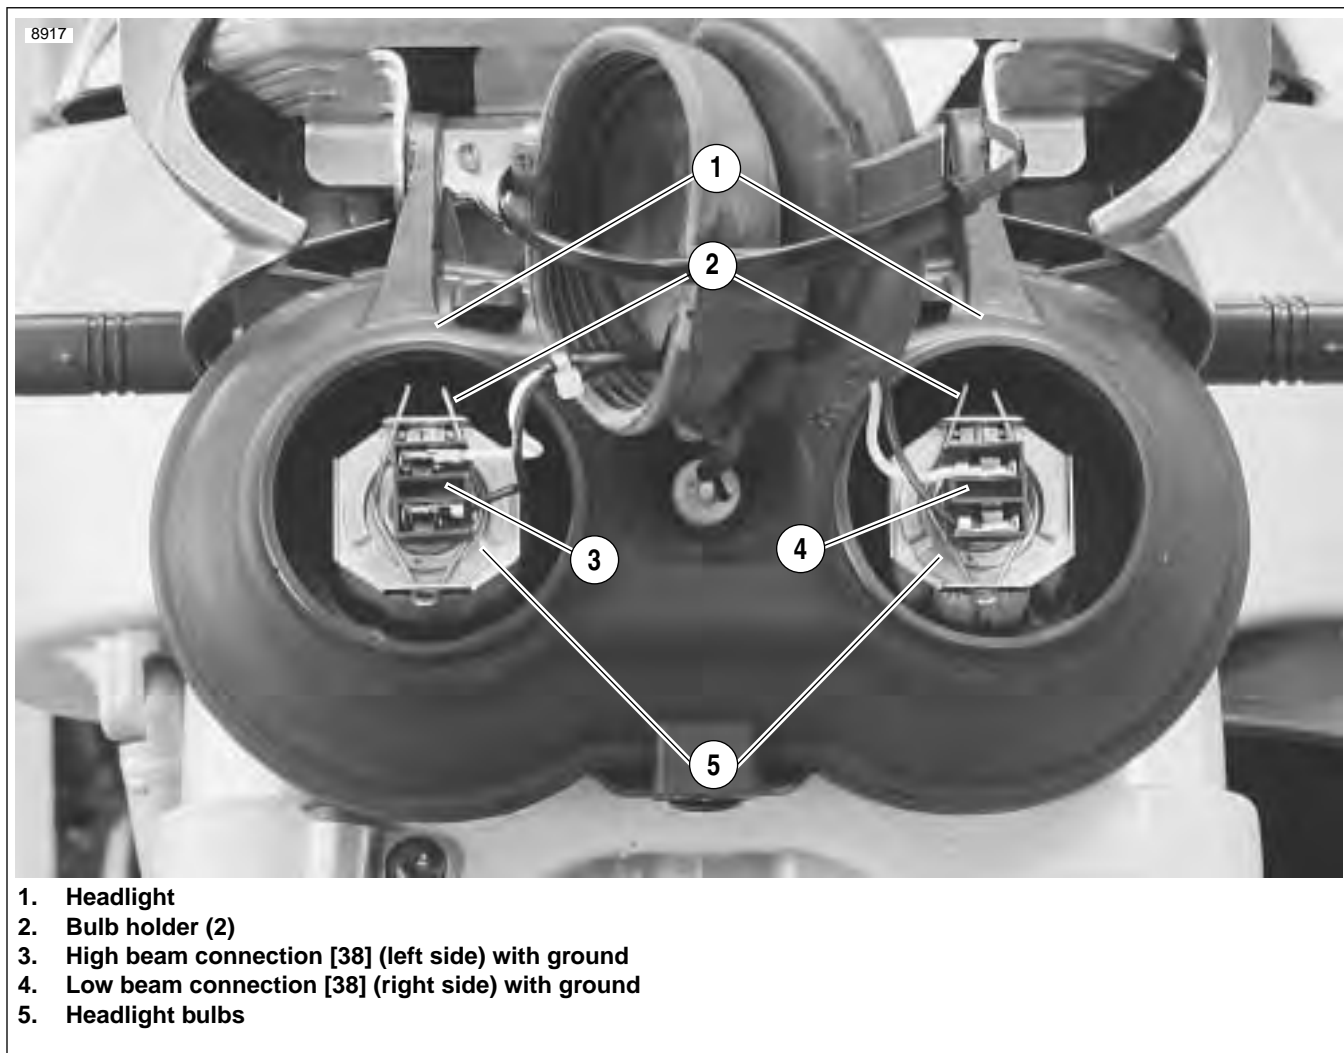

Figure 7-47. Headlight Assembly/Rear View
3. See Figure 7-47. Remove rubber boot from headlight housing.
4. Unplug headlight bulb connectors (3) and/or (4).
5. Release bulb holder (2) from headlight housing clips.
1. See Figure 7-47. Align tabs on bulb (5) with tabs on headlight (1). Insert bulb.
2. Close the bulb holder (2).